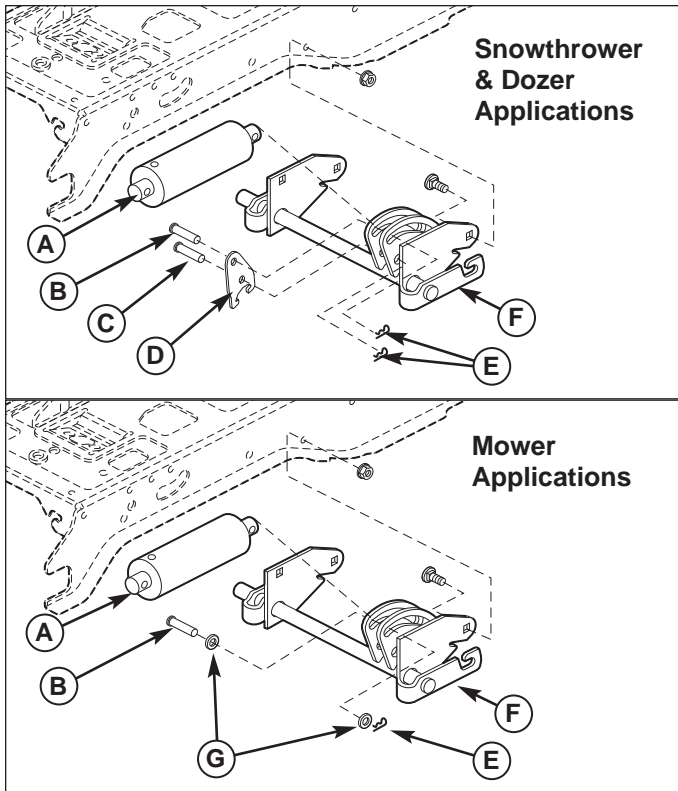

Figure 5. Lift Lock Plate - Hydraulic Lift Models
1. Install the downward pressure lock plate (D, Figure 5) and an additional pin (C). Note that the washers (G) are not used with the lock plate.